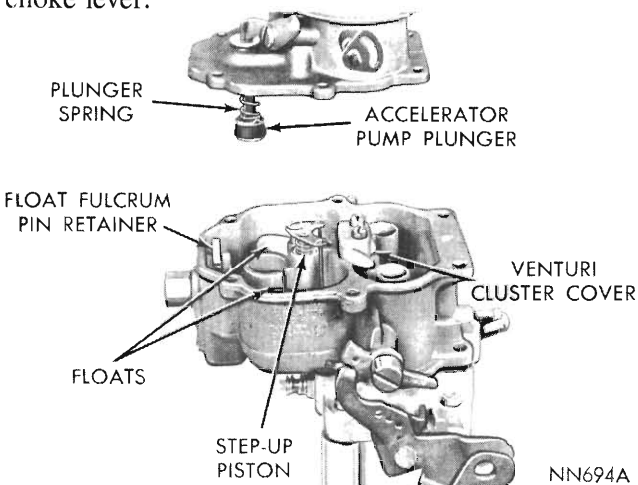

Fig. 1 - Removing or installing air horn
(4) Remove the vacuum hose between the carburettor main body and the vacuum diaphragm.
(5) Remove the clip from the choke operating link and disengage the link from the diaphragm plunger (stem) and the choke lever.
(6) Remove the choke vacuum diaphragm and bracket assembly and place to one side to be cleaned as a special item. *A liquid cleaner may damage the diaphragm material.*
(7) Remove the air horn retaining screws and lift air horn straight up and away from main body, as shown in *Fig. 1*. Discard the gasket.
(8) Disengage the accelerator pump plunger from the rocker arm by pushing up on the bottom of plunger and sliding plunger shaft off hook. Slide plunger out of air horn and remove the bowl vent valve, spring seat and spring.